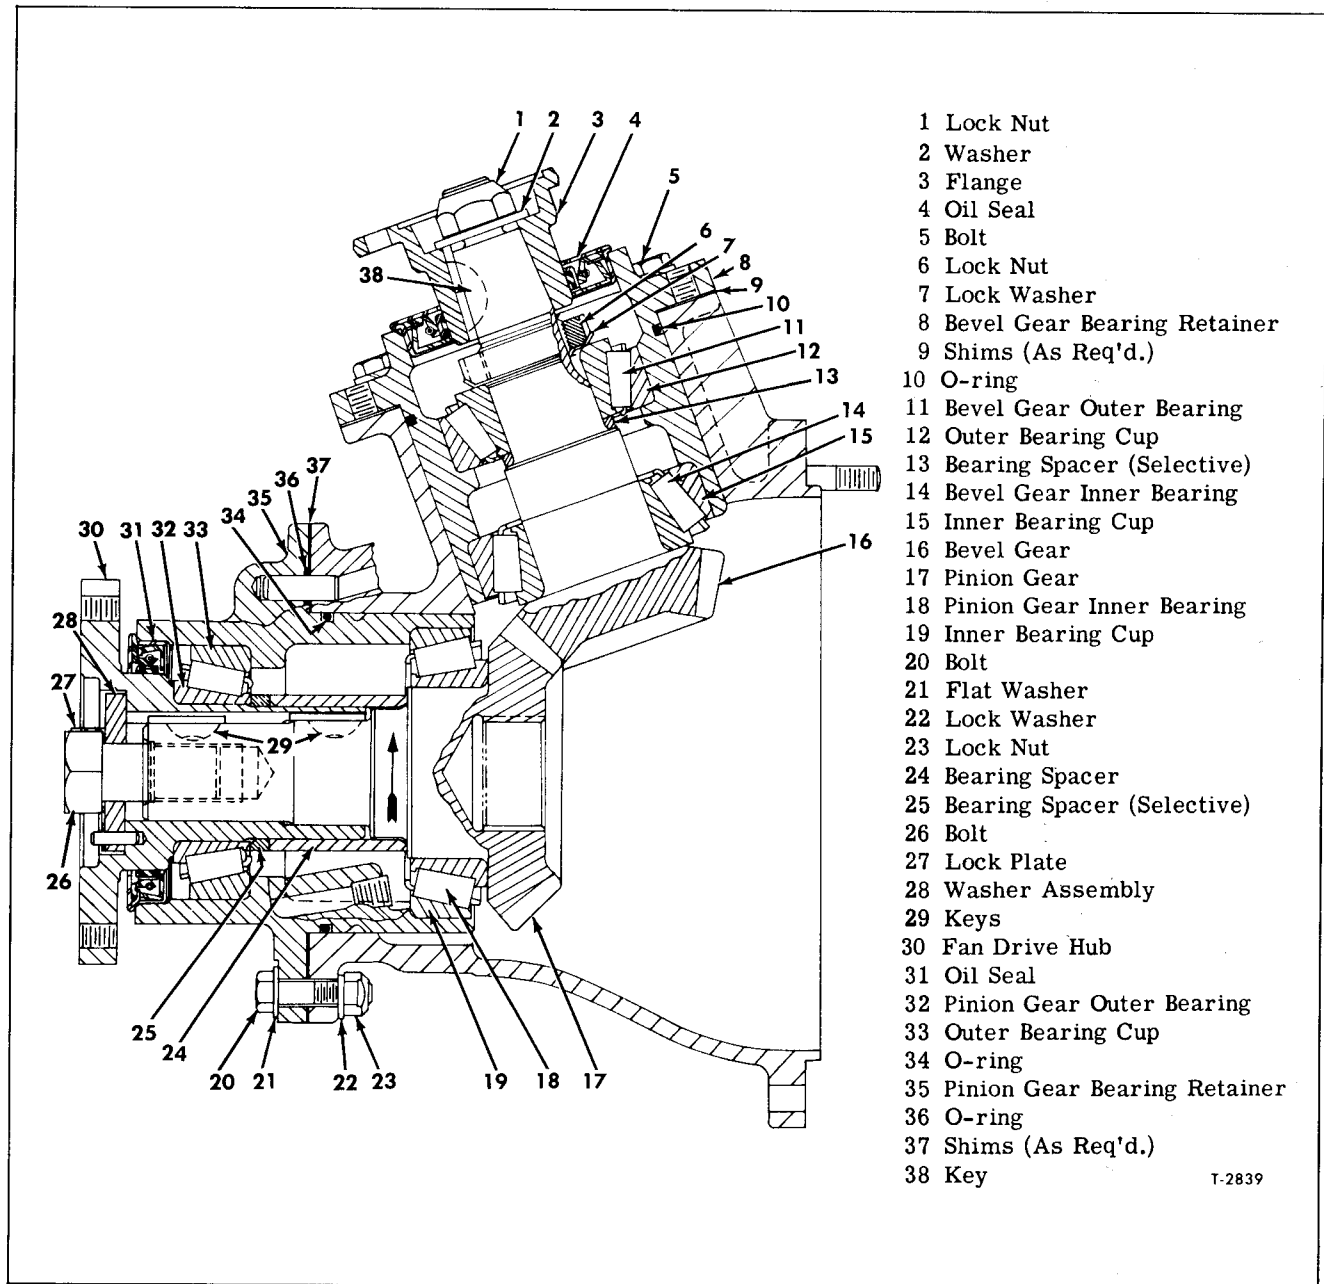

Figure 67—Compressor Accessory Drive
The accessory drive, as used to transfer power of coach engine to operate the air conditioning refrigerant compressor, consists of a bevel drive gear and pinion enclosed within engine fan drive housing, as shown in figure 67.
Referring to figure 67, engine torque is transferred from fan drive pinion (17) to the bevel gear (16) at a ratio of 1.0 to 1.59.
Bevel gear (16, fig. 67) is supported in bearing retainer (8, fig. 67) on two tapered roller bearings which are lubricated by engine oil pressure through internal drilled passages. Bearing retainers (8 and 35, fig. 67) of both gears can be 0.001" press fit to 0.001" loose fit in opening of accessory drive housing.
Adjustment of gear backlash and tooth contact is accomplished by removing or adding shims (9 and 37, fig. 67) which relocate position of one gear in relation to the other. Instructions for making adjustments are explained later under "Bevel Gear and Pinion Adjustments."
Key numbers in text refer to figure 67.
Key numbers in text refer to figure 67. Coat all parts in clean SAE 30 engine oil when assembling unit.
Key numbers in text refer to figure 67. Coat all parts in clean SAE 30 engine oil.